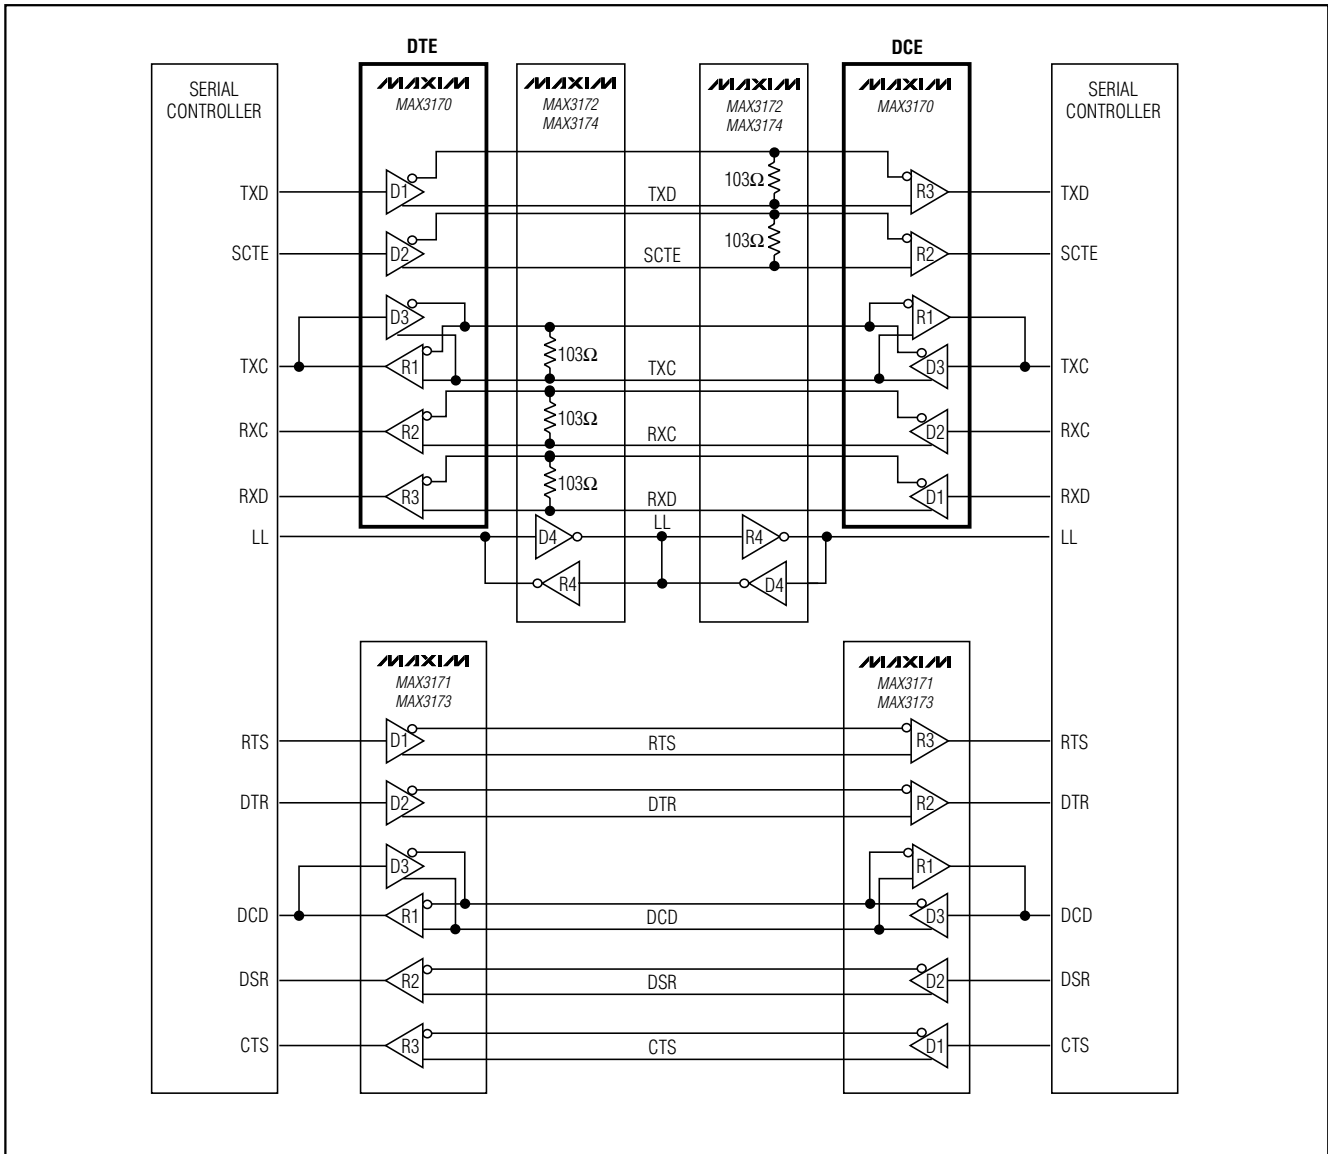

Figure 16. DCE-to-DTE X.21 Interface
A complete DTE-to-DCE interface operating in X.21 mode is shown in Figure 16. The MAX3170 is used to generate the clock and data signals, and the MAX3171/MAX3173 generate the control signals. The MAX3172/MAX3174 generate local loopback (LL), and are used to terminate the clock and data signals to support the V.11 protocol for cable termination. The control signals do not need external termination.